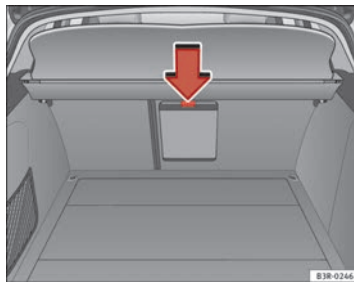

Fig. 126 Detailed view of the rear of the rear backrest: Ski bag cover
- Press the release catch for the ski bag cover (flecha) and fold the cover downwards ⇒ Fig. 126.